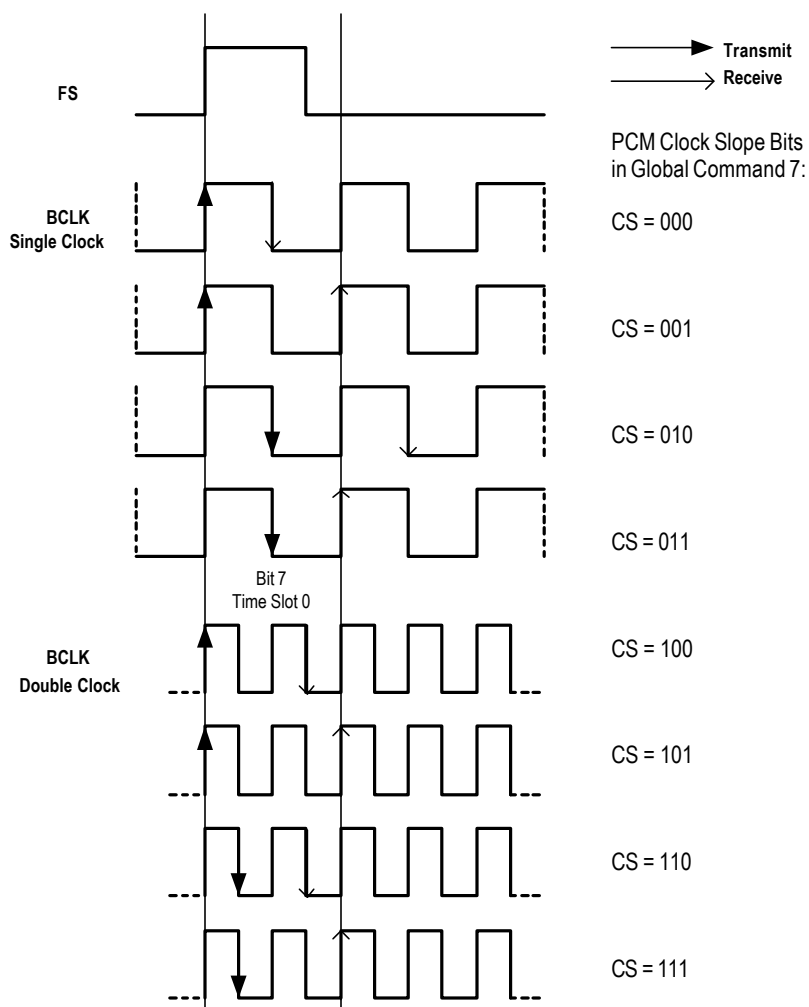

Figure 3. Sampling Edge Select Waveform
IDT821054 provides two flexible PCM buses for all 4 channels. The digital PCM data can be compressed (A/μ-law) or linear code. The data rate can be configured as the same as Bit Clock (BCLK) or half of it. The data can be transmitted or received either on BCLK rising edges or falling edges. The data transmit and receive time slot can offset from Frame Synchronization (FS) by 0 to 7 BCLK period(s). See Figure 3. All the selections are implemented by Global Command 7, which is configured for all 4 channels.